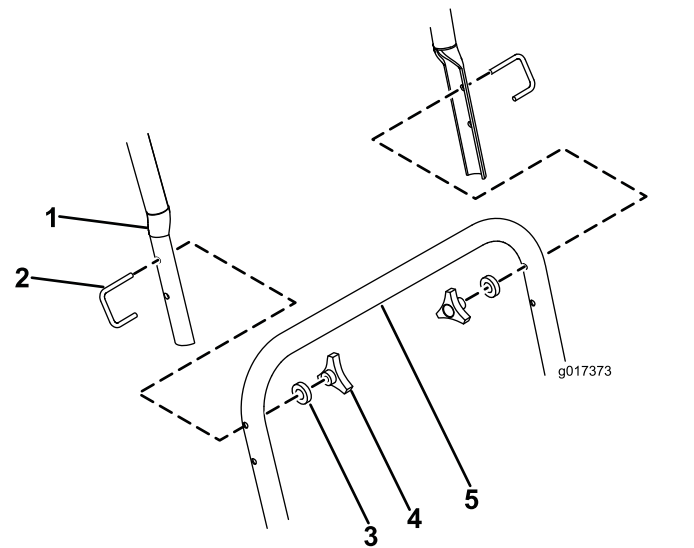

Figure 4
5. Connect the upper handle to the lower handle by securing each side with a U-bolt, an M6 washer, and a handwheel (Figure 4).